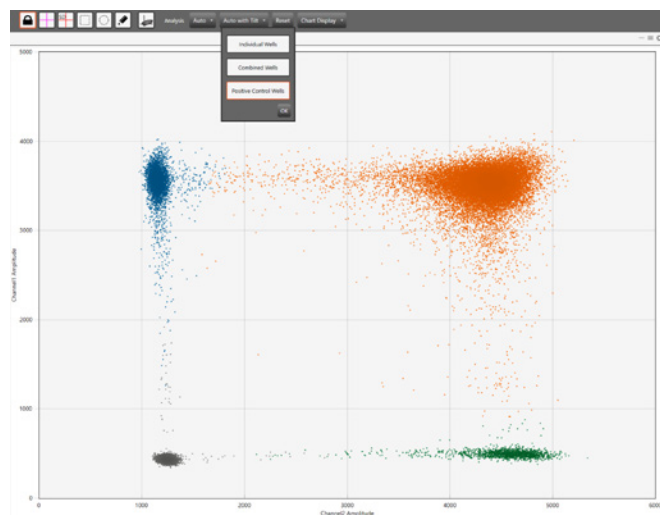

Fig. 3. Autothresholding using Positive Control Wells. On the 2-D Amplitude tab, select all wells and choose Positive Control Wells from the Auto dropdown menu.
3. Click Auto, select Positive Control Wells at the bottom of the dropdown menu, and click OK. This will autothreshold all selected wells based on the designated positive control wells. See Figure 3 for details.